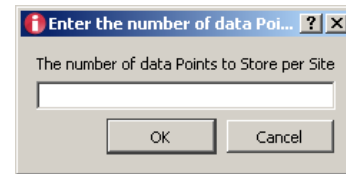

**FIGURE 7. FILE NAME AND DIRECTORY SAVE DIALOG BOX**
- The DPM software allows the user to store a set number of points of data. Go to the menu bar of the ISL28022 DPM Demo Software window and choose File → Save Data. Choosing the Save Data option will open a dialog box asking for the filename and directory of the save path. Figure 7 is an illustration of the dialog box.